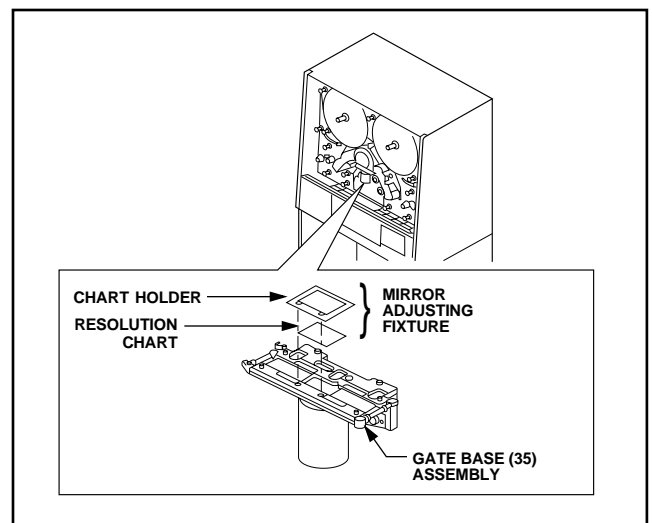

Figure 2
1. Install the mirror adjusting fixture to the gate base assembly as shown in Figure 2.